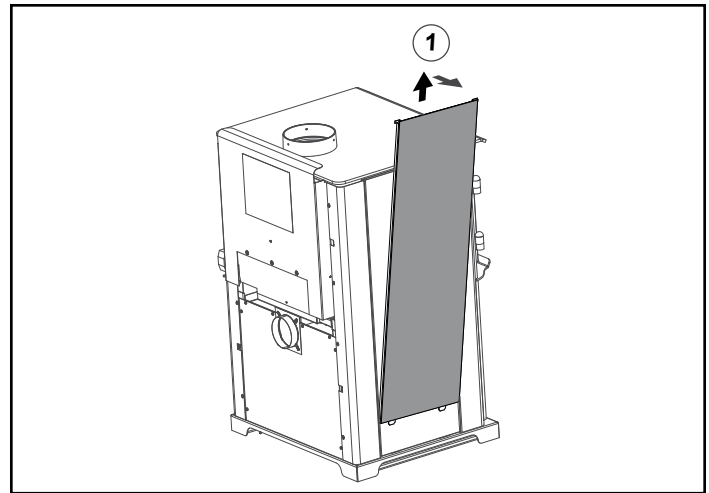

Figure 24.4
- Remove solid panel from side by lifting up and pulling away from appliance (use a flat tool to pry from bottom if needed) (**Figure 24.4**).
1. Remove tile frame from side by lifting up and pulling away from appliance (**Figure 24.4** reference **solid side panel removal**).